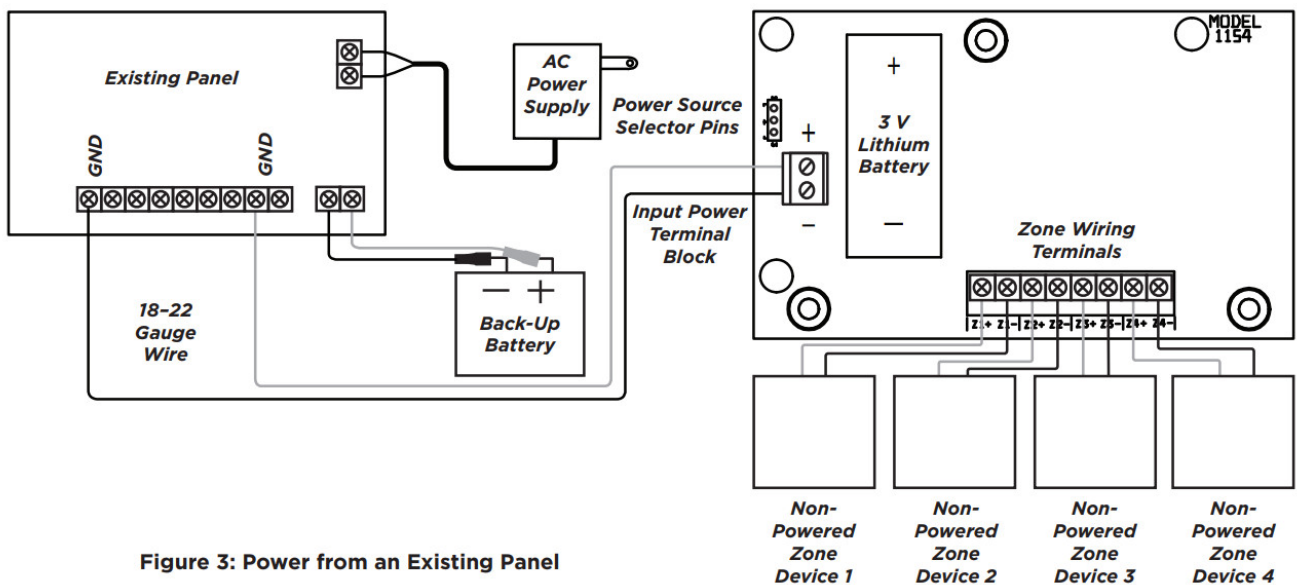

Figure 3: Power from an Existing Panel
2. Using 18 to 22 gauge wire, connect a black wire to the ground terminal on the existing panel, and a red wire to a terminal on the panel with 12 VDC power. See Figure 3.